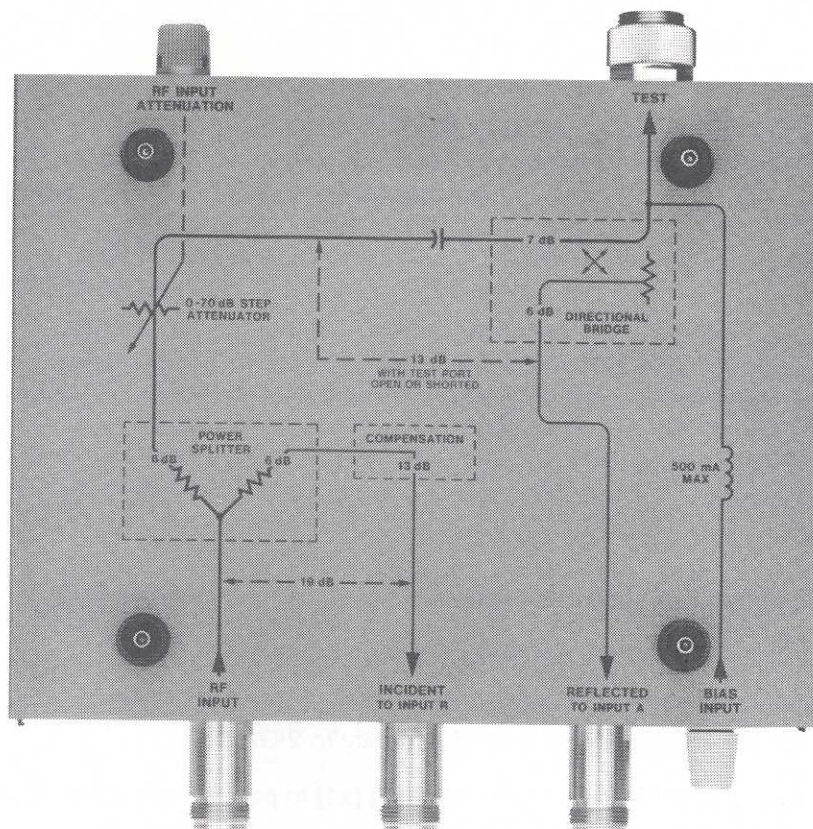
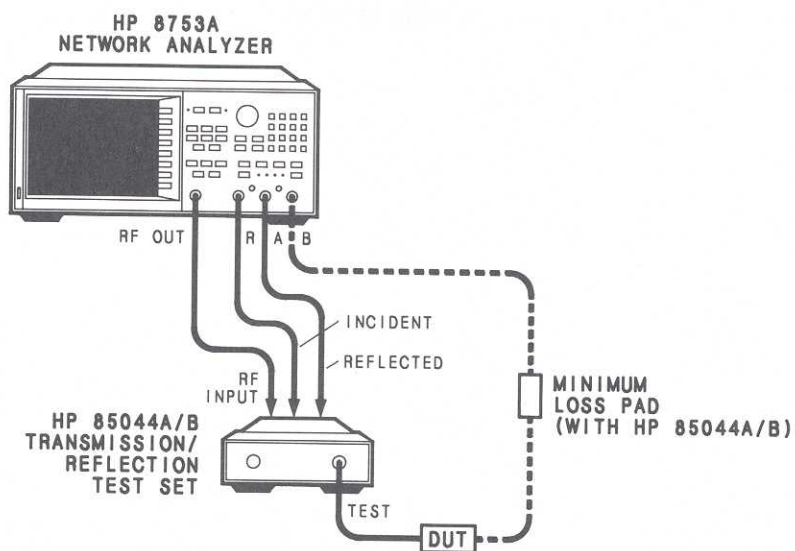

Figure 3-3. HP 85044A Case Bottom Showing RF Signal Path.
Figure 3-4. Typical Measurement Setup.
This section illustrates the features and functions of the front and rear panels of the test set (Figures 3-1 and 3-2). Figure 3-3 shows the case bottom (which depicts the RF signal path through the test set). Figure 3-4 shows a typical test set measurement setup.
1. Connect the equipment as shown in Figure 3-4 but do not connect the DUT.